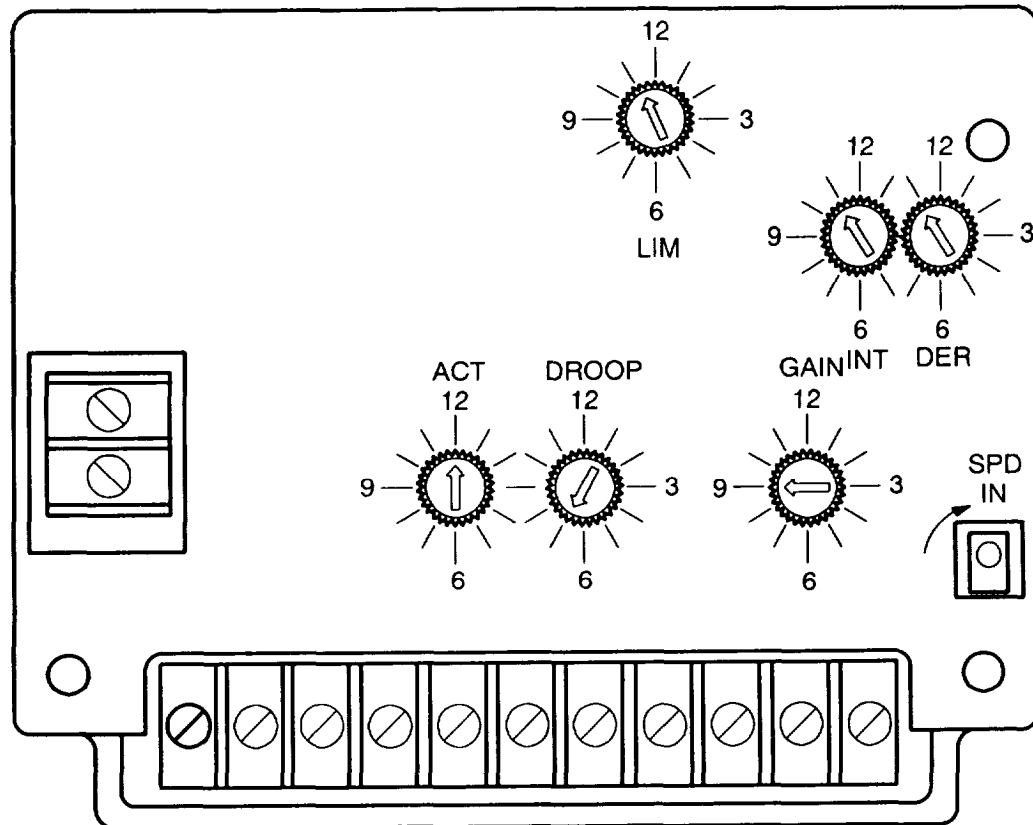

Figure 5-26 Speed Governor Assembly N1, Location of Potentiometers.
4. Preset potentiometers as follows (figure 5-26):